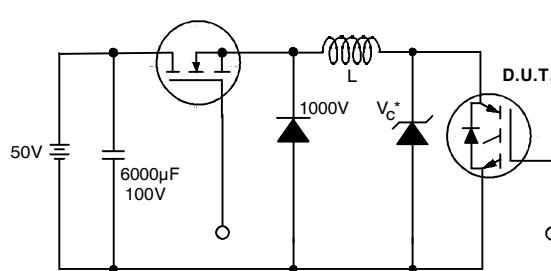

Figure 19. Clamped Inductive Load Test Circuit
- ② $V_{CC}=80\% (V_{CES})$, $V_{GE}=20V$, $L=10\mu H$, $R_G=50\Omega$ (figure 19)
- ③ Pulse width $\leq 80\mu s$; duty factor $\leq 0.1\%$.
- ④ Pulse width $5.0\mu s$, single shot.